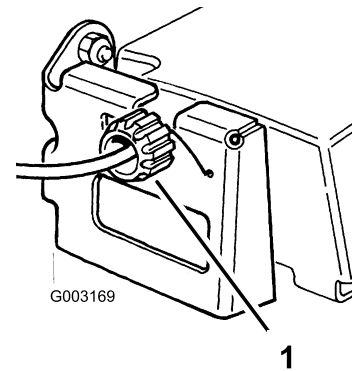

Figure 27
2. Rotate the control knob clockwise a half turn if the lawn mower does not self-propel. If the lawn mower creeps forward, rotate the knob a half turn counterclockwise to loosen the belt (Figure 27).